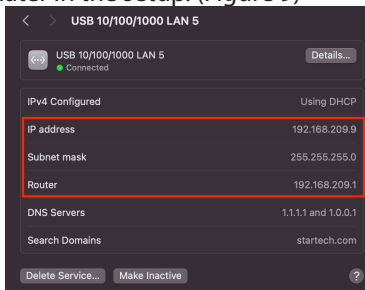

Figure 9
3. Take note of the **Existing Network** details, **IP address**, **Subnet mask**, and **Router** addresses, as they will be referenced later in the setup. (Figure 9)